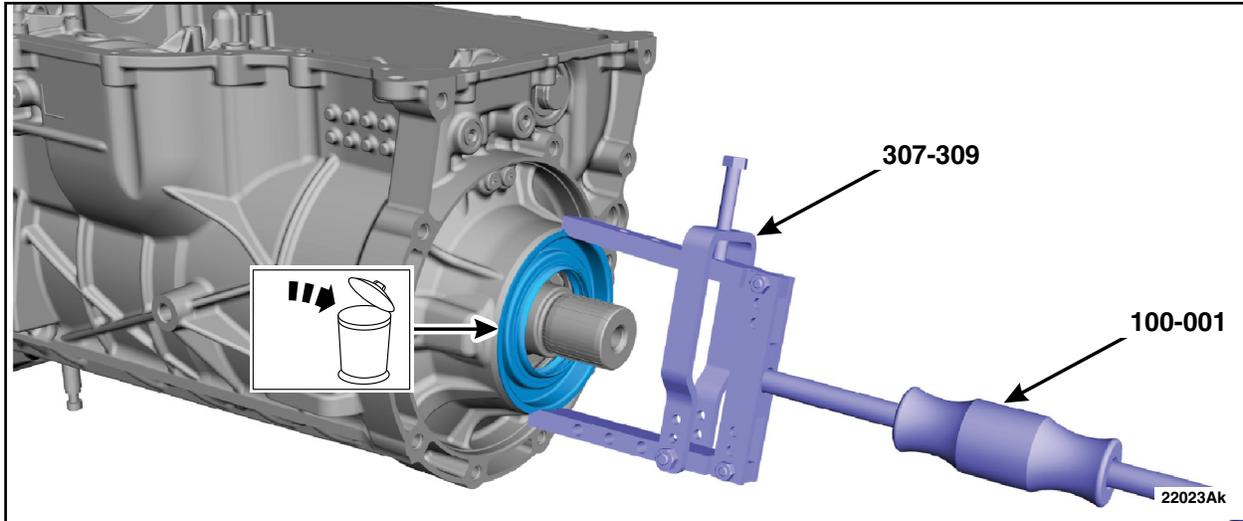

FIGURE 15
18. Using Special Service Tool: 100-001 (T50T-100-A) Slide Hammer., 307-309 Remover, Torque Converter Seal, remove and discard the output shaft seal. See Figure 15.